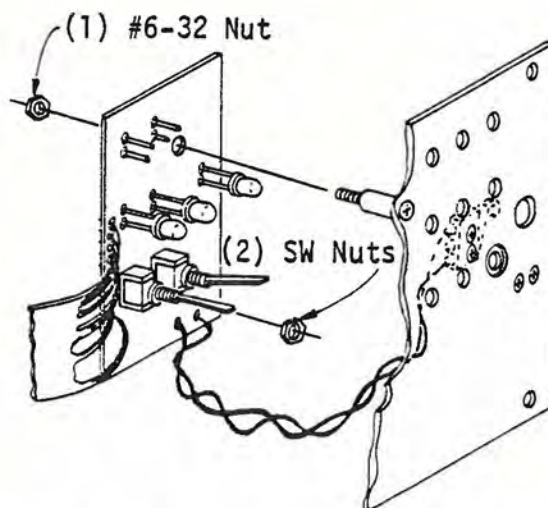

Figure 5-72 Display Control Board Installation
2. Slip a #2 nut (Bag 4) over each switch of the Display/Control Board (see Figure 5-72) and tighten down with nut driver.
3. Attach the Display/Control Board to the subpanel with a #6-32 x 11" screw, 1.87 spacer (bag 4) and #6 x 32 nut. Figure 5-72 illustrates this assembly process.